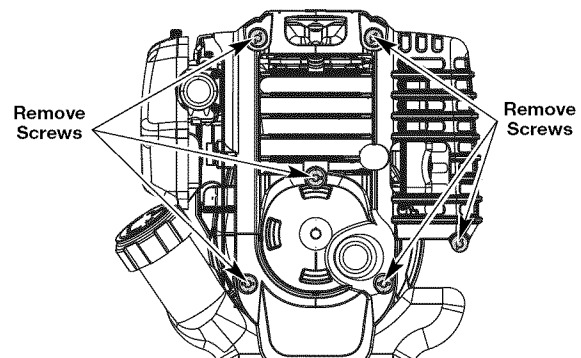

Fig. 33
1. Remove the six (6) screws on the back of the engine cover with a Flat-head or T-25 Torx screwdriver (Fig. 33).
4. Remove the engine cover (Fig. 33).
1. Stop the engine and allow it to cool. Remove the six (6) screws on the back of the engine cover with a Flat-head or T-25 Torx screwdriver (Fig. 33).